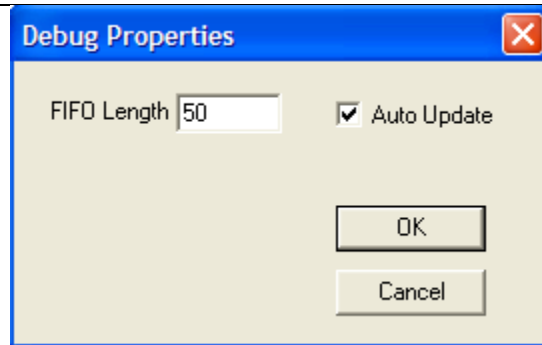

Figure 44
- 2) Select the *Workstation Debug* menu item. This produces the *Debug Properties* dialog (See figure 44).
- 2) Select the *Device Debug* menu item for a device or the *Channel Debug* menu item for a channel. This produces the *Debug Properties* dialog (See figure 44).